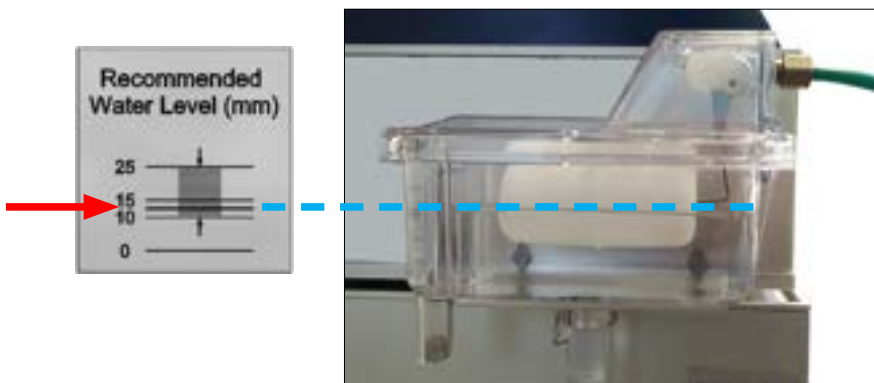

Figure 6.4d: Correct water level.
- The water supply connects to the water feed assembly at the rear right side of the tester (Figure 6.4a through Figure 6.4d).
- The Recommended Water Level label behind the water feed assembly shows the correct water level (Figure 6.4d).